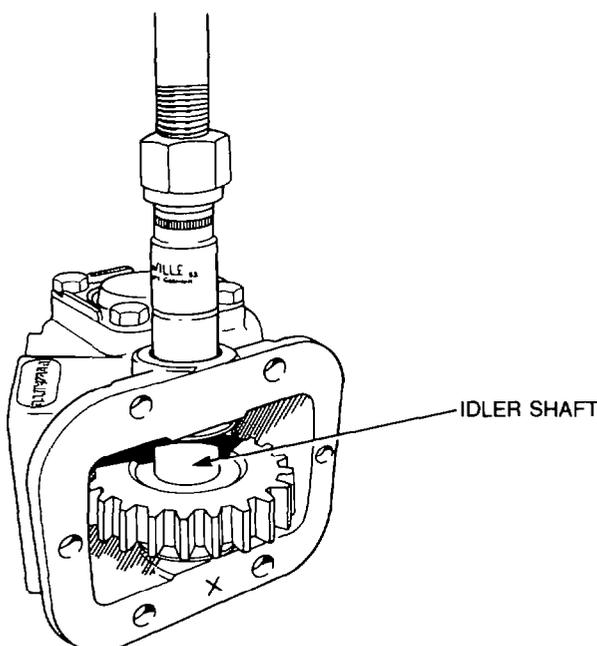

Figure 189 — Removing Idler Shaft
- e. Remove the circlip (furthest from the end of the idler shaft from which the welsh plug was removed) and slide it along the shaft. Install the PTO housing in a press and remove the idler shaft using the press and a suitable adapter (see Fig. 189).